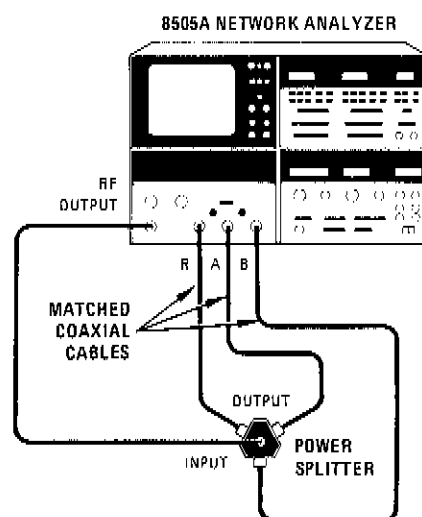

Figure A2-19. Ratio Frequency Response Test Setup
- j. Connect equipment as shown in Figure A2-19 with the power splitter connected to "R", "A", and "B" inputs and Power Meter disconnected from setup.